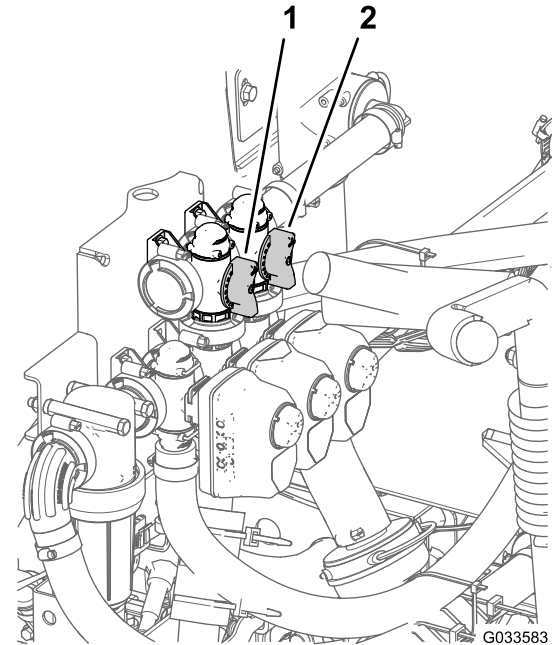

Figure 72
11. Adjust the agitation bypass valve (Figure 72) on the backside of the agitation valve until the pressure reading on the gauge is 6.9 bar (100 psi).
8. Adjust the master section-bypass handle to control the amount of agitation occurring in the tank (Figure 72).